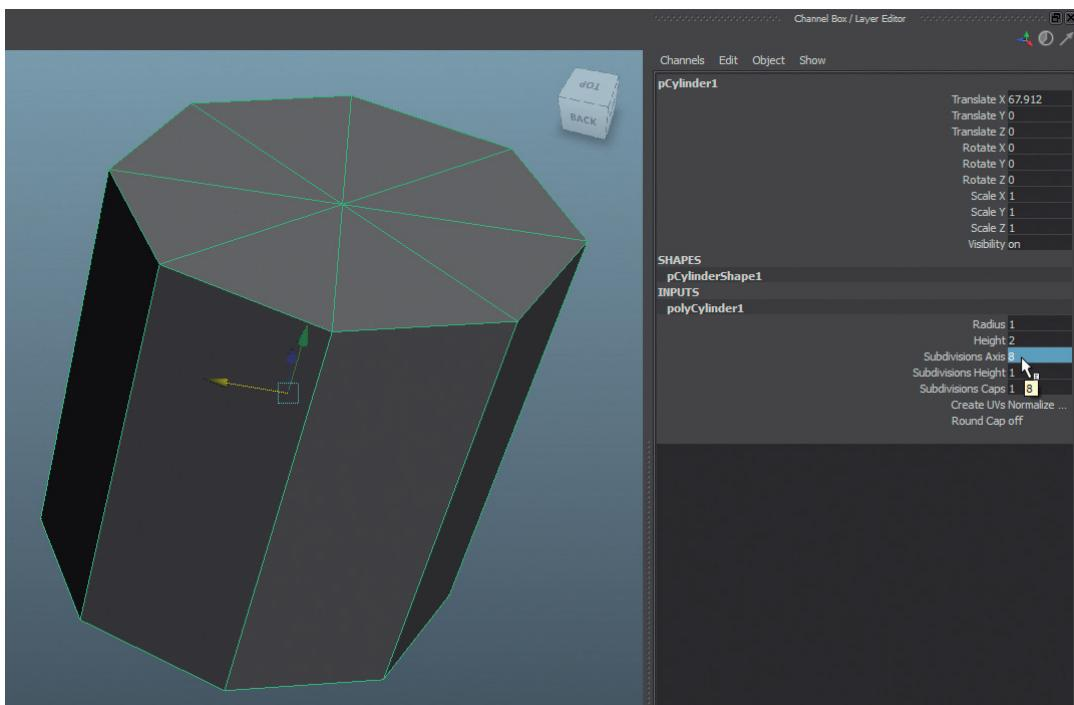

FIG 3.35 Adjusting the parameters of a primitive cylinder to create the base of our octagonal room.
Step 50: Create the octagonal base of the room with a cylinder. To do this, choose Create > Polygon Primitives > Cylinder. Move the cylinder away from the middle of the scene to a place where it's easier to evaluate. In the Channel Box, under INPUTS expand the node named polyCylinder1. There, change the Subdivisions Axis to 8 (Fig. 3.35).